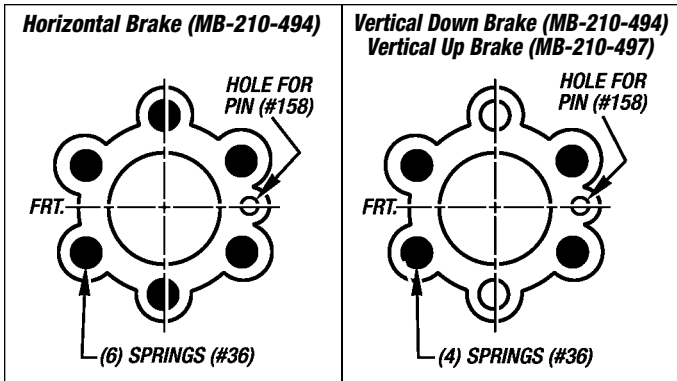

Figure 9.8 - Spring Placement
(See Figure 9.8)
1. Place the proper number of Springs (#36) into the spring pockets in the Housing (#8). (See Figure 9.8.)
3. Place the Piston Housing (#10) and Piston (#3) Sub-Assembly down over the Hub (#2) and on to the Housing (#8). Align the Dowel Pin (#158) with the proper hole in the Housing (#8). (See Figure 9.8)